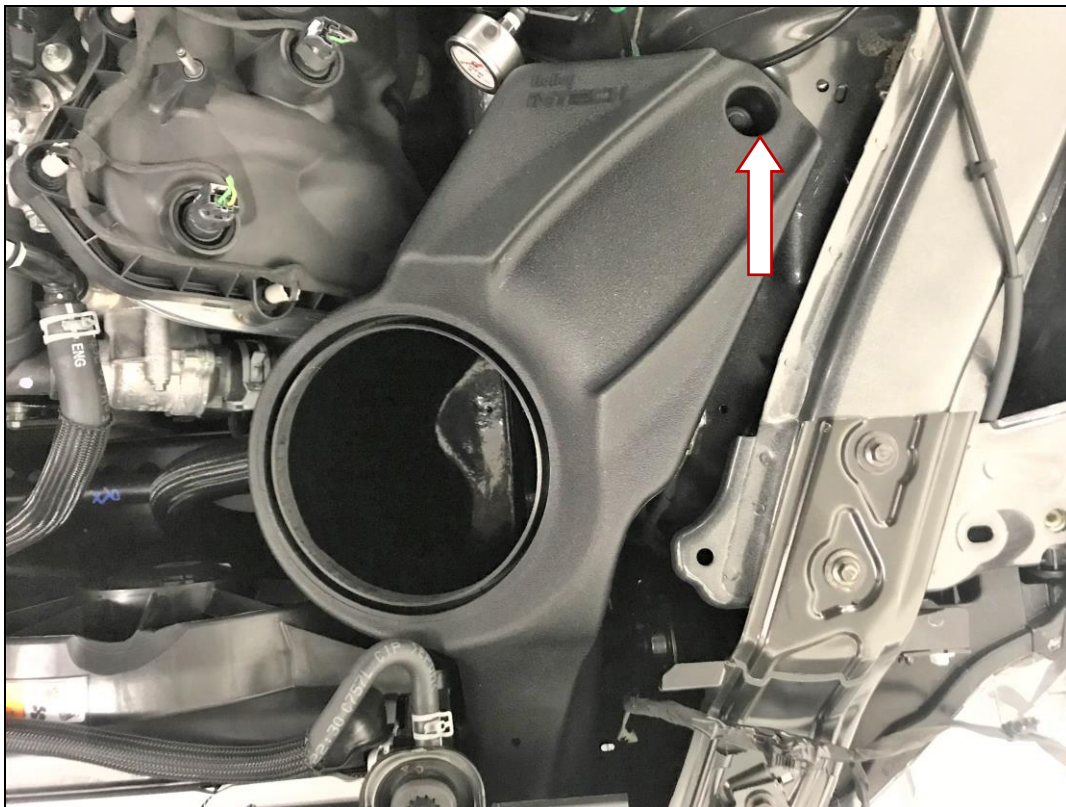

Figure 4
- Secure housing with the previously removed factory bolt (**Figure 4**).